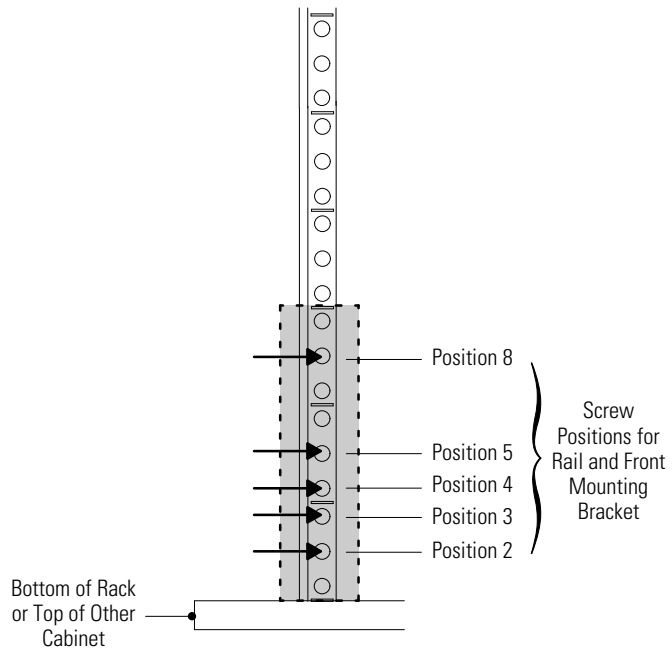
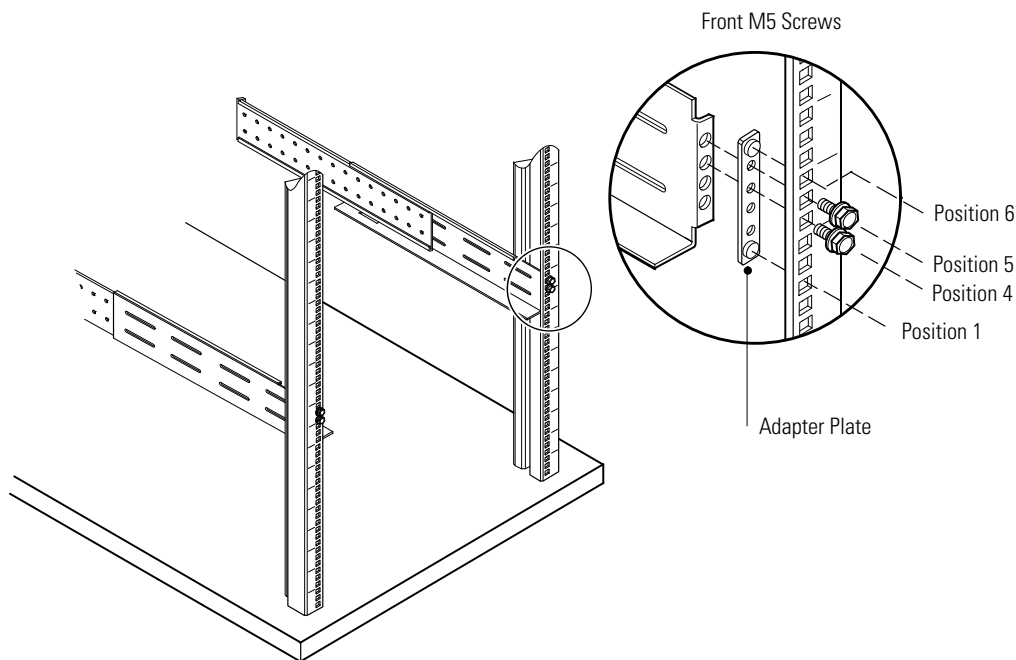

Figure 1. Front Rail Screw Positions for the EBM
Figure 2. Securing the Front Rail
1. Select the proper holes in the rack for positioning the EBM in the rack (see Figure 1).
3. Using two M5 machine screws and an adapter plate, attach the rail to the front of the rack (see Figure 1 and Figure 2).